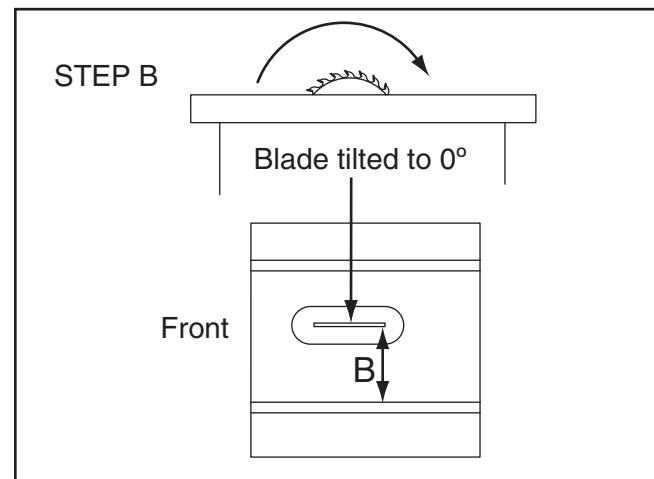

Figure 117. Measuring distance from miter slot to carbide tip on opposite side of table insert.
5. Slide adjustable square down to other end of table insert and compare distance from marked blade tip to end of adjustable square, as shown in **Figure 117**.